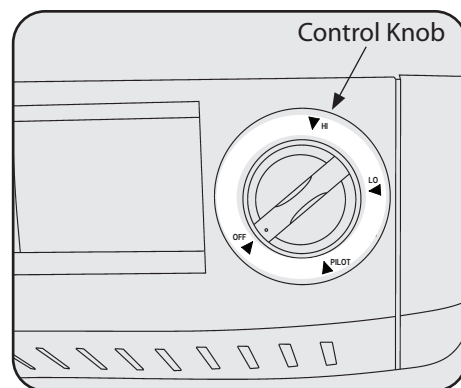

Figure 15
3. Push in gas control knob and slightly turn clockwise  to the OFF position See Figure 15.